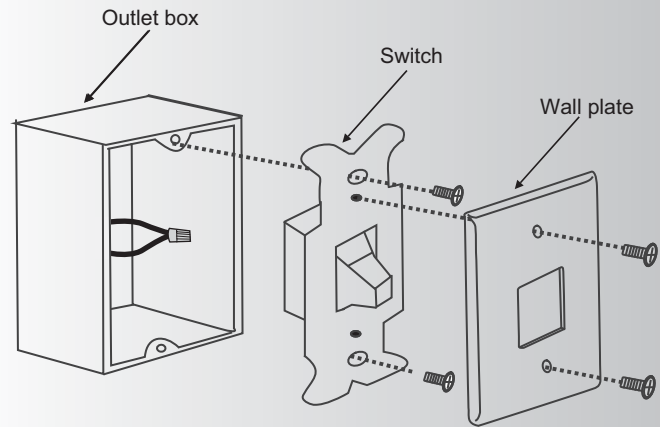

Fig. 27
Step 1. Remove the existing wall plate and the old switch from the wall outlet box. Wire nut the **BLACK** leads (hot) together and push back inside the outlet box. (Fig. 27)